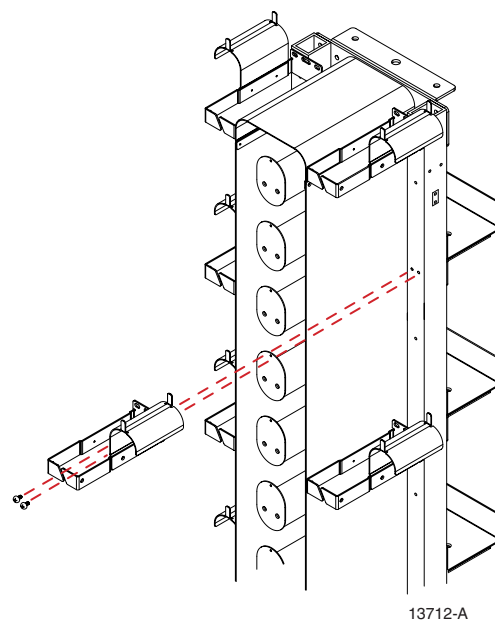

Figure 11. Removing the Vertical Cable Guide/Radius Limiter Assembly
2. Remove the assembly from the bay (Figure 11).